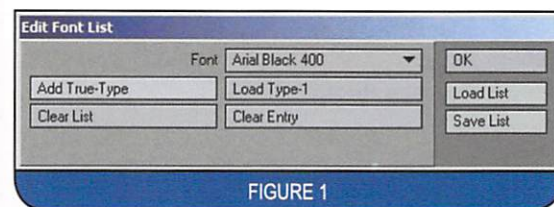

FIGURE 1
- 1) Open the "EditFontList" window [Modeler/Options/EditFontList] (for LW 7.5) or the "Manage Font" window (F10) (for LW 8.0). See Figure 1.